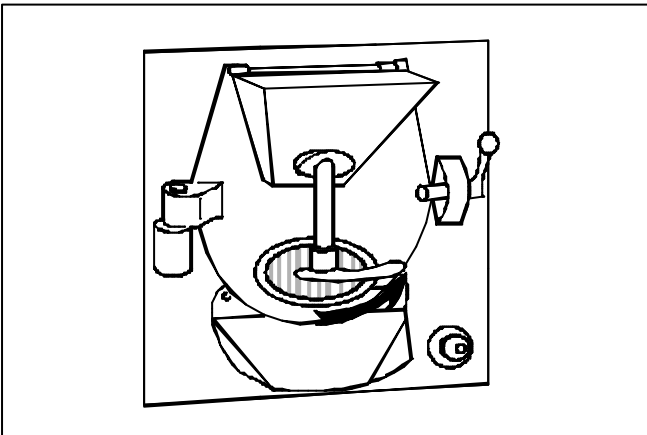

Figure 5
- To lock the ice cream door, turn the handle to the right until it stops (ref Fig. 5).